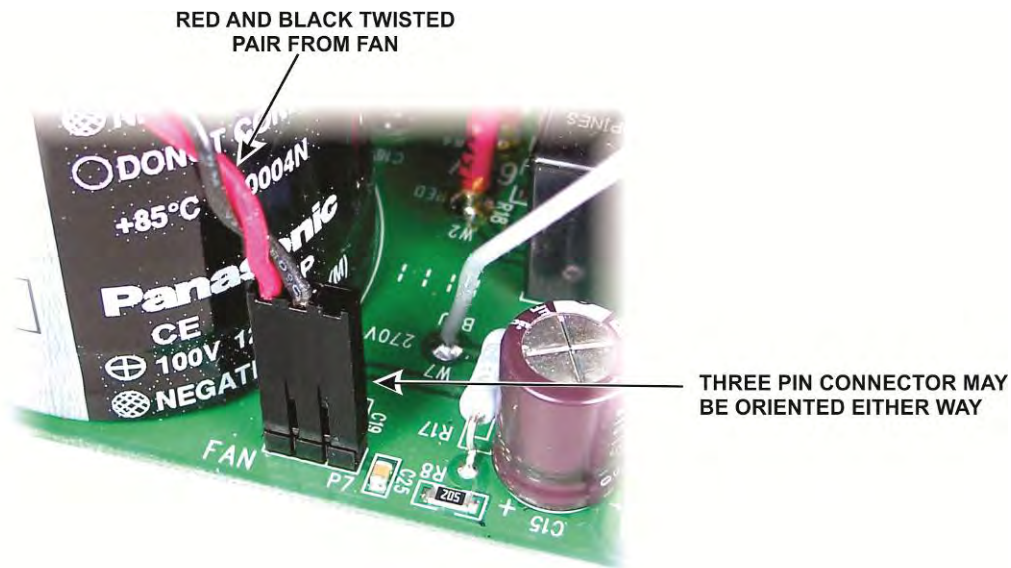

Figure 37. Connecting the Fan Cable to the Power Supply Module.
□ Connect the red/black twisted wire pair from the fan to the power supply module as shown in Figure 37. Note that although this is a three-pin connector, the connector on the pc board is wired so it may be plugged in either way.